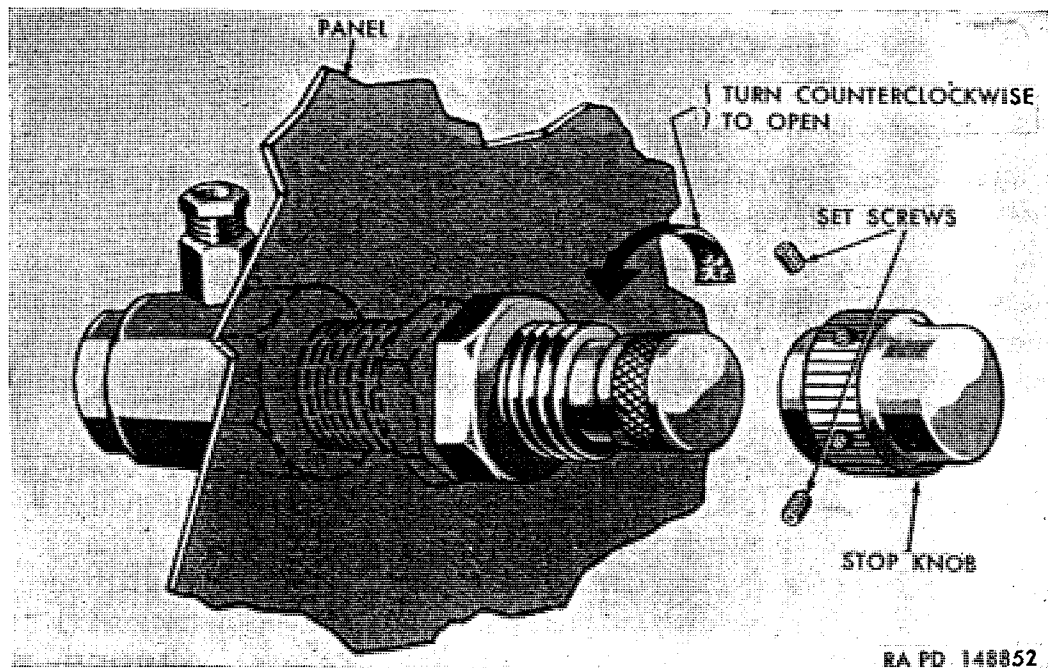

Figure 313. Windshield wiper control adjustment.
- (1) Both windshield glasses must be kept thoroughly wetted during adjustment. With system air pressure of 35 psi or more, open control valve completely. If motors operate between 60 and 70 complete cycles (120 to 140 strokes) per minute, valve is correctly adjusted. Count as one stroke each time blade reaches end of travel. If motor speed is not in this range, adjust valve.
- (2) Loosen two setscrews and pull stop knob (fig. 313) off regulator knob. Turn regulator to operate motors at 120 to 140 strokes per minute (preferably 120 strokes) on thoroughly wetted windshield. Without disturbing adjustment, install
Disconnect air lines at valve. Loosen two setscrews and pull stop knob (fig. 313) off regulator knob. Remove hex nut which retains valve and nameplate to instrument panel; then from underneath dash, remove valve assembly.